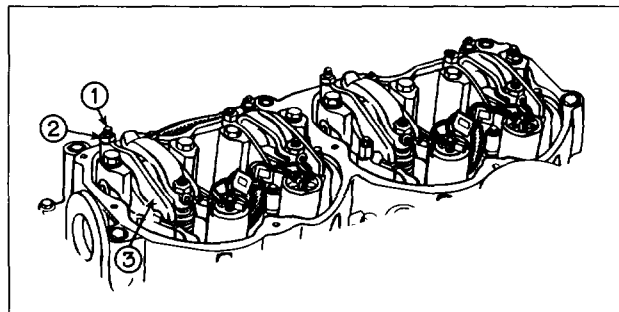

FIG. 4
Refer to Fig. 4. Loosen the locknut (2) and the adjusting screw (1) on the exhaust rocker arm (3).